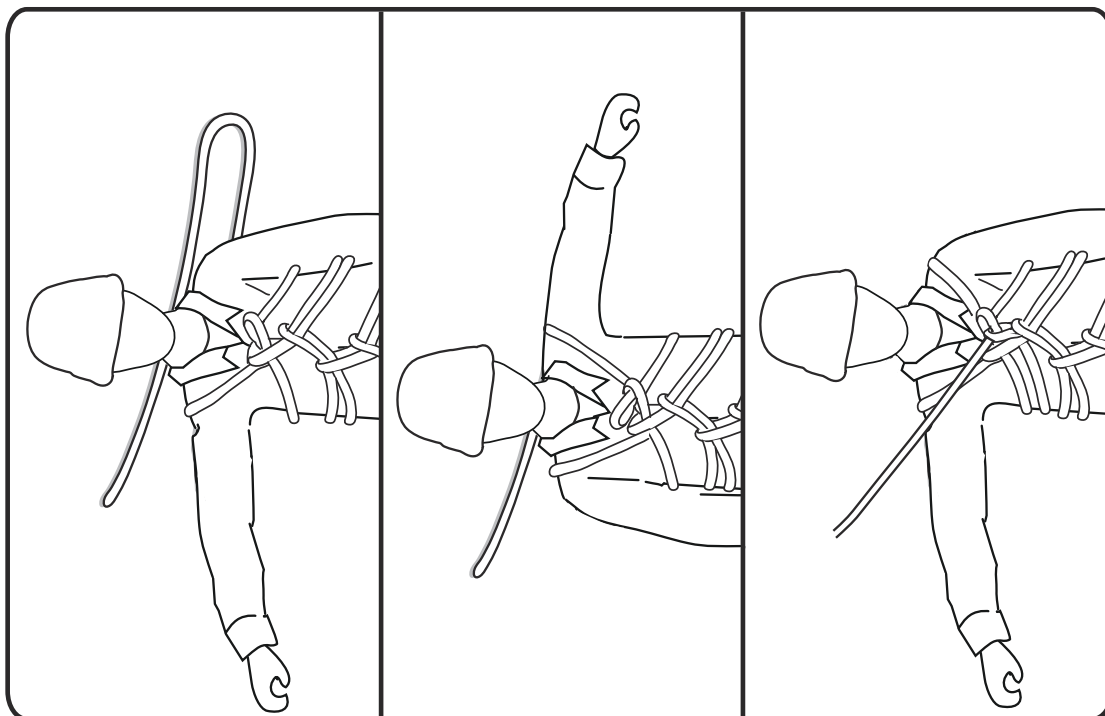

Figure 9-10. Securing the Casualty's Shoulders.
- From the running end of the rope, bring a bight over the casualty's shoulder and through the last bight formed, as in figure 9-10.